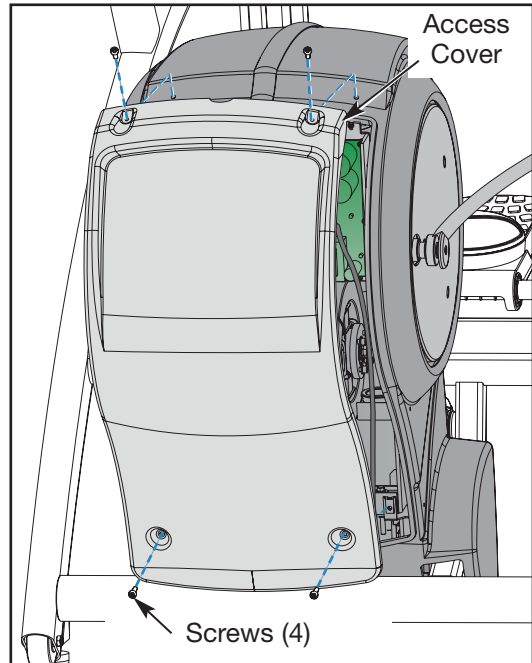

Figure 2
- A. Turn the main power switch above the power inlet to the off (O) position.
- A. Using a Phillips head screwdriver, remove the four screws securing the access cover. See Figure 2.
- F. Press **Stop** and turn the power switch to the off (O) position.
- A. While being sure not to pinch any cables, hold the access cover in place. See Figure 2.
- D. While the unit is elevated, turn the main power switch to the off (O) position and unplug the power cord from the power outlet.